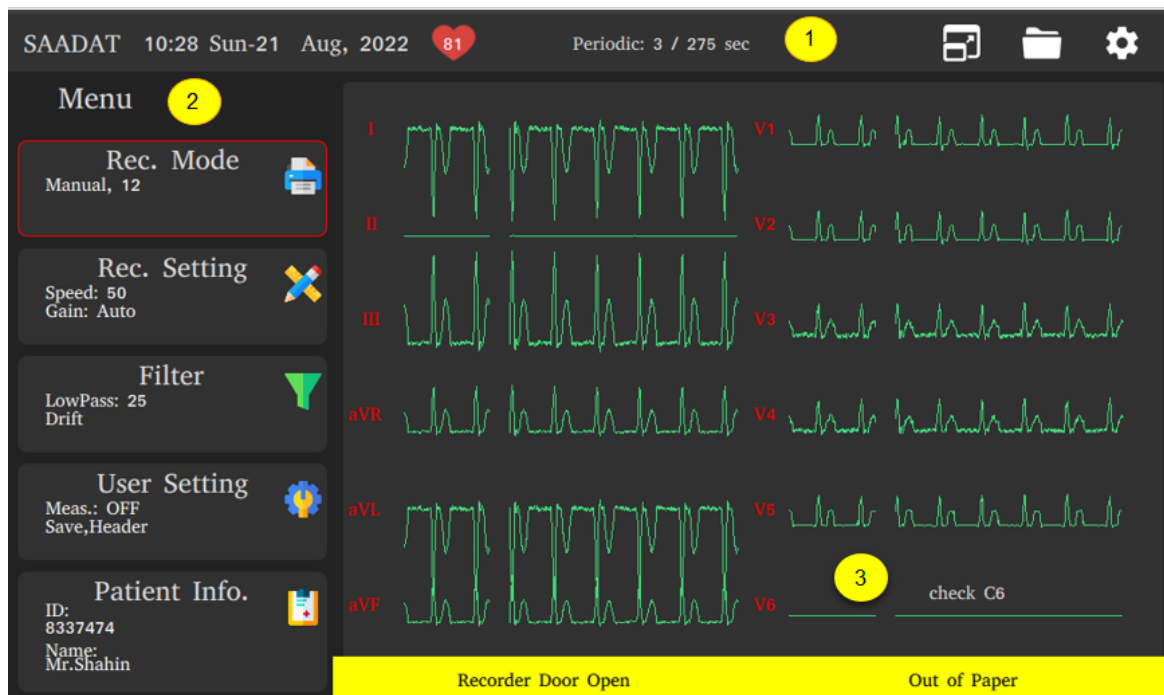

Figure 1-3 DENA 1210 display screen (with messages)
- Header area (figure 1-3-①),
- Menus and touch keys (figure 1-3-②), and
- Waveform and message area (figure 1-3-③).
The Dena 1210 electrocardiograph constantly checks the connection of the electrodes and, if it detects that the electrodes are not connected properly, displays a message in the signal drawing area (such as lead V6 in Figure 1-3-③).